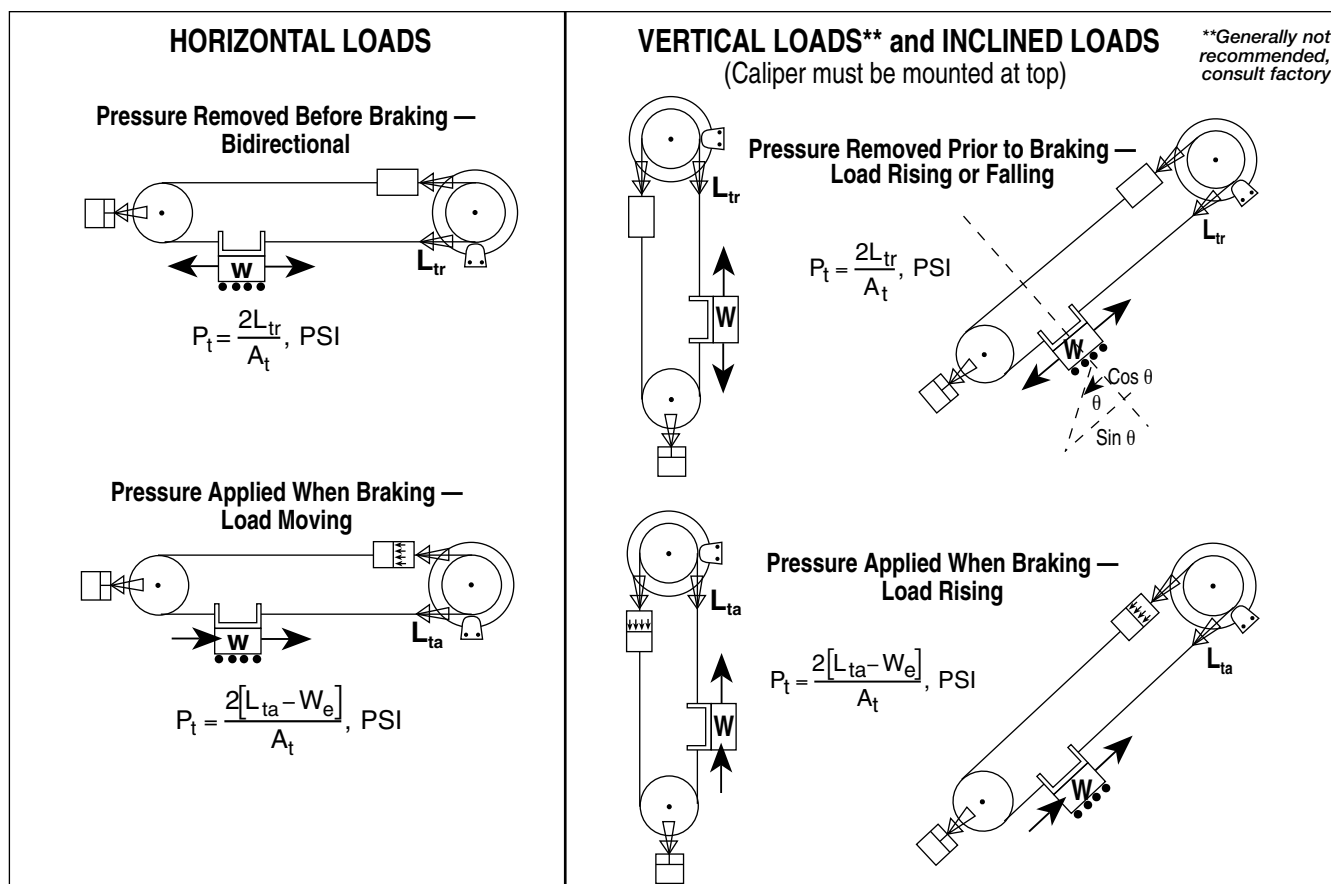

Figure 1
3. Calculate the tangential braking force required. This is ( $F_{tr}$ ) when pressure is removed prior to braking, or ( $F_{ta}$ ) when pressure is still applied when braking. Refer to illustrations in Figure 1.
- 5.** Calculate tensioner pressure setting, ( $P_t$ ) based on type of load configuration. See Figure 1 and Table 1